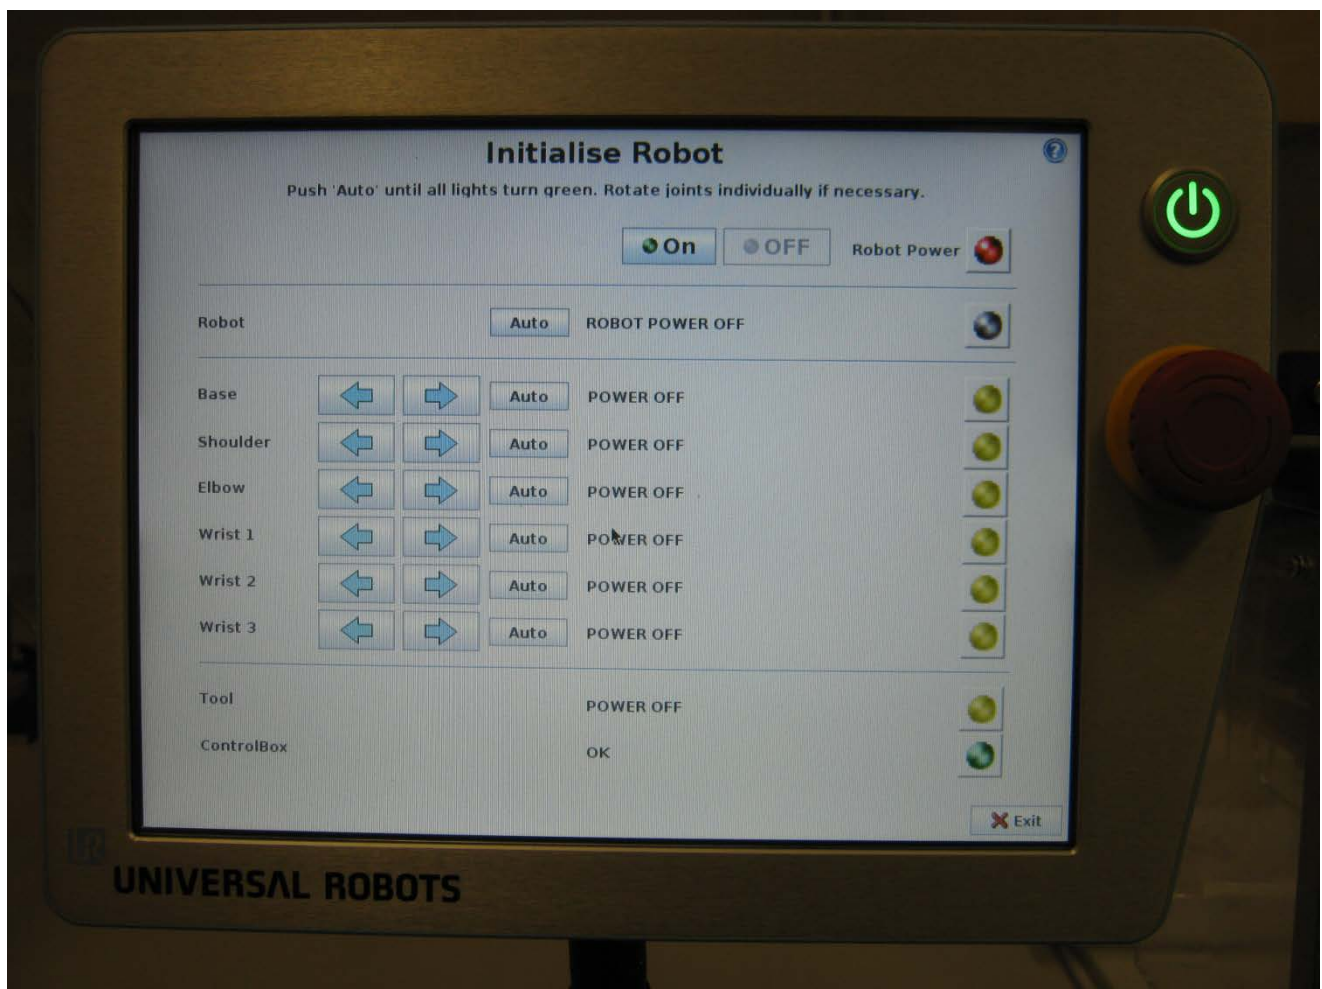

Figure 6 The Initialise Robot screen.
8. The robot does not remember its position when shut down. As such it must be initialised. The first step is to supply power to the robot. Press the “On” button at the top of the Initialise Robot screen (Figure 6). The green indicator button next to “Robot Power” on the pendant screen will illuminate.
9. **Read this entire instruction before beginning the initialisation step.** The robot can be initialised by using a predefined program or by moving each of the joints individually. You may wish to move each joint individually if the robot is in an awkward position and is likely to crash into an external object or itself, otherwise using the predefined program is fine. To initialise the robot using the predefined function press the “Auto” button next to “Robot” (Figure 6) keeping your finger on the button. Watch the robot closely as it initialises to check for any collisions. The robot will move each axis individually. If at any time during initialisation the robot looks likely to collide with itself or another object, release the button that you are pressing to stop the robot. If you press the button again the robot will rotate in the direction opposite to the previous direction – this way you can avoid a collision. If you wish to manually initialise the robot you can initialise each joint individually by clicking the Auto button or the arrow buttons associated with each joint (Figure 6).